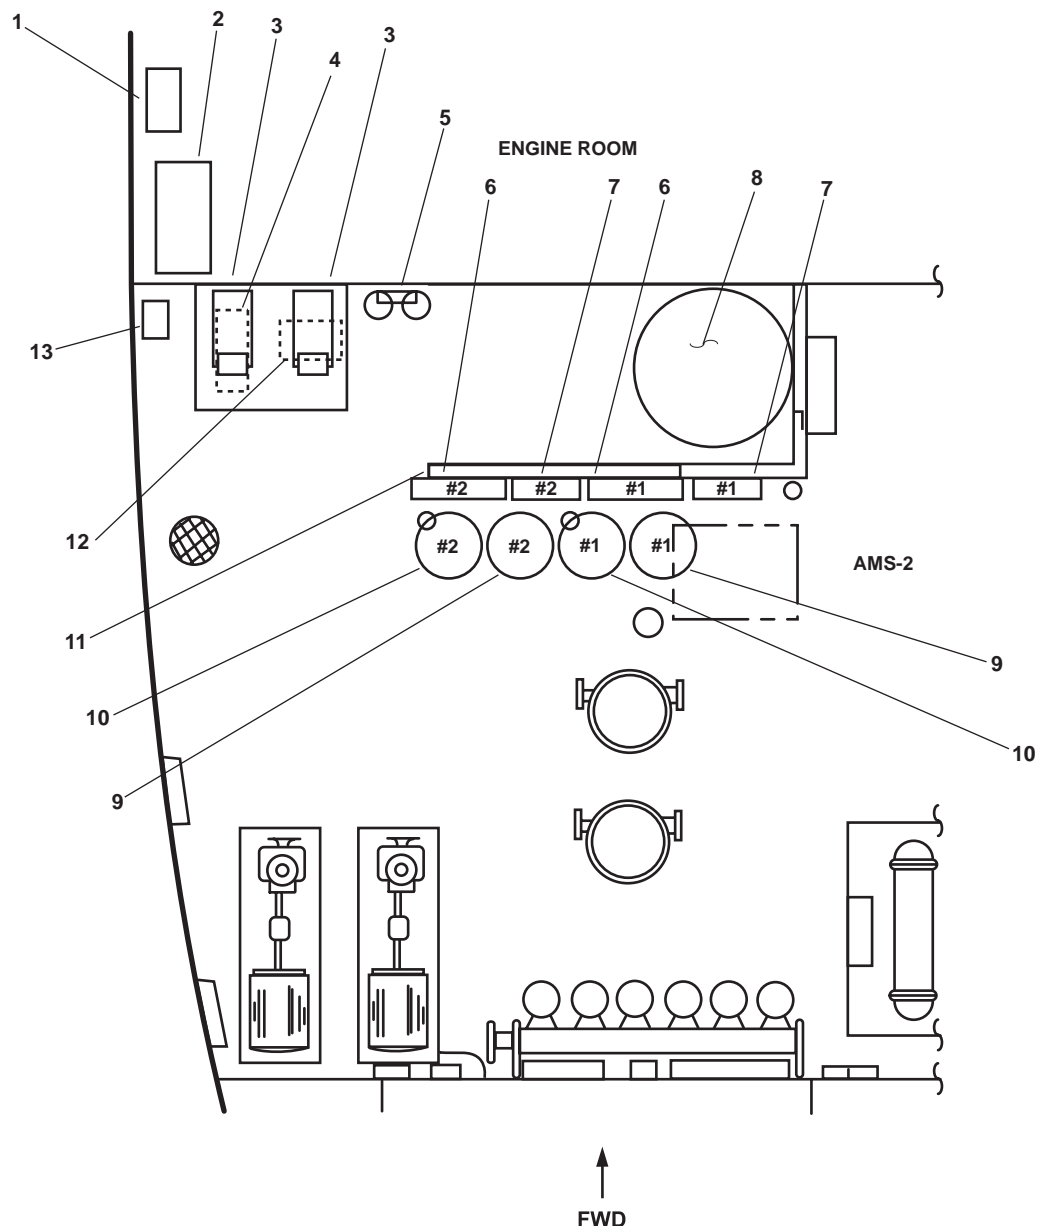

Figure 1. Major System Components
1. ROWPU System 24 Vdc Battery Charger/Power Supply (figure 1, item 1). The battery charger/power supply provides 24 Vdc to recharge the battery bank, and it provides 24 Vdc during normal ROWPU operation.
2. 24 Vdc Battery Bank (figure 1, item 2). Stand-alone battery bank that provides power to the ROWPU system during layup periods. The battery bank is capable of providing power to maintain fresh water flush cycles for up to 90 days without being recharged.
3. High Pressure Pumps (figure 1, item 3). The high pressure pumps provide filtered high pressure raw water to the RO membrane elements.
4. Fresh Water Flush Pump (figure 1, item 4). The fresh water flush pump (located beneath the high pressure pumps) provides the fresh water needed for flushing the ROWPU system during maintenance and layup periods.
5. Charcoal Filters (figure 1, item 5). The charcoal filters remove sediment and odors from the fresh water used during flushing cycles. The charcoal filters also block bromine and chlorine from passing into the reverse osmosis membranes.
6. Flow Control Panels (figure 1, item 6). The flow control panels provide the operator with the indicators needed to monitor the quantity and quality of product water, and the means to control overall system pressure.
7. System Controllers (figure 1, item 7). The system controllers monitor and control all processes accomplished by the ROWPU system.
8. Media Filter (figure 1, item 8). The media filter removes suspended particles 30-micron and larger from the raw water. This provides protection and longer life to the 20-micron filter element.
9. 20-Micron Filters (figure 1, item 9). The 20-micron filters remove suspended particles 20-micron and larger from the raw water. This provides protection and longer life to the 5-micron filter element.
10. 5-Micron Filters (figure 1, item 10). The 5-micron filters remove suspended particles 5-micron and larger from the raw water. This provides protection and longer life to the high pressure pumps and RO membranes.
11. Reverse Osmosis (RO) Membrane Elements (figure 1, item 11). The RO membranes convert high pressure raw water into potable drinking water.
12. ROWPU System 24 Vdc Control Panel (figure 1, item 12). The 24 Vdc Control Panel (located beneath the high pressure pumps) provides the operator with a means of locally monitoring and securing 24 Vdc to the ROWPU. The battery will still maintain a charge even if these breakers are OFF. This switch must remain ON in order for the ROWPU system controllers to monitor the system and conduct fresh water flushes during layup periods.
13. ROWPU 24 Vdc Fuse Box (figure 1, item 13). The fuse box provides 24 Vdc circuit protection to the ROWPU system in the event of a casualty or damage to the ROWPU system 24 Vdc battery charger/power supply or the 24 Vdc battery bank.